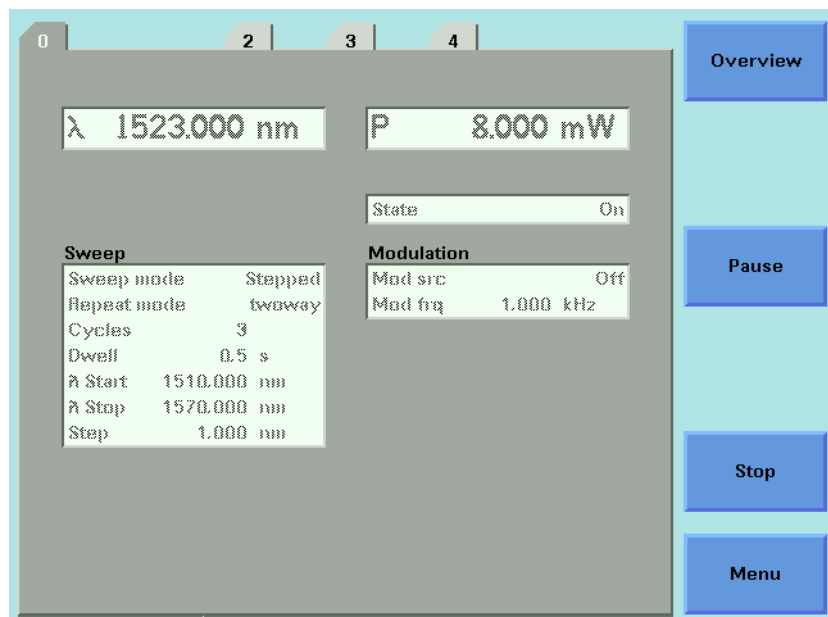

Figure 72 Executing a Stepped Sweep
- 17 Press [Run Swp] to start the sweep. The screen in Figure 72 appears.